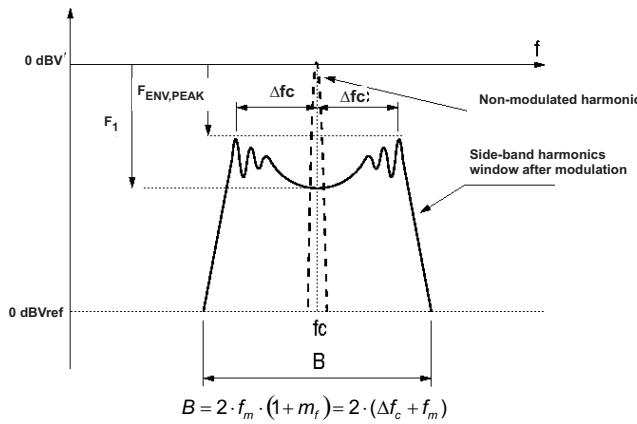
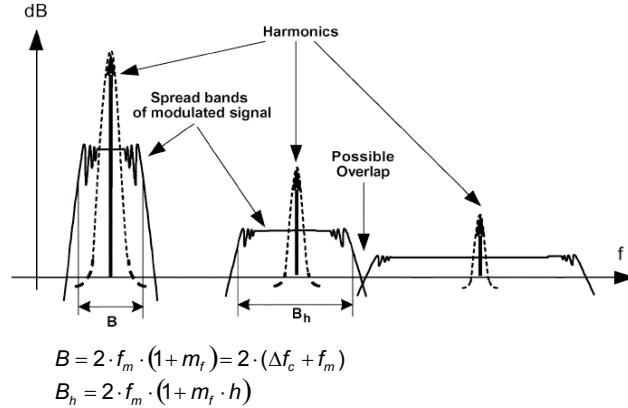

Figure 8. Spectrum Of A Frequency Modulated Sin. Wave With Sinusoidal Variation In Time
Figure 9. Spread Bands Of Harmonics In Modulated Square Signals ⁽¹⁾
Figure 8 and **Figure 9** show that after modulation the sideband harmonic is attenuated when compared to the non-modulated harmonic, and when the harmonic energy is spread into a certain frequency band. The higher the modulation index (mf) the larger the attenuation.
(1) Spectrum illustrations and formulae (**Figure 8** and **Figure 9**) copyright IEEE TRANSACTIONS ON ELECTROMAGNETIC COMPATIBILITY, VOL. 47, NO.3, AUGUST 2005. See References Section for full citation.